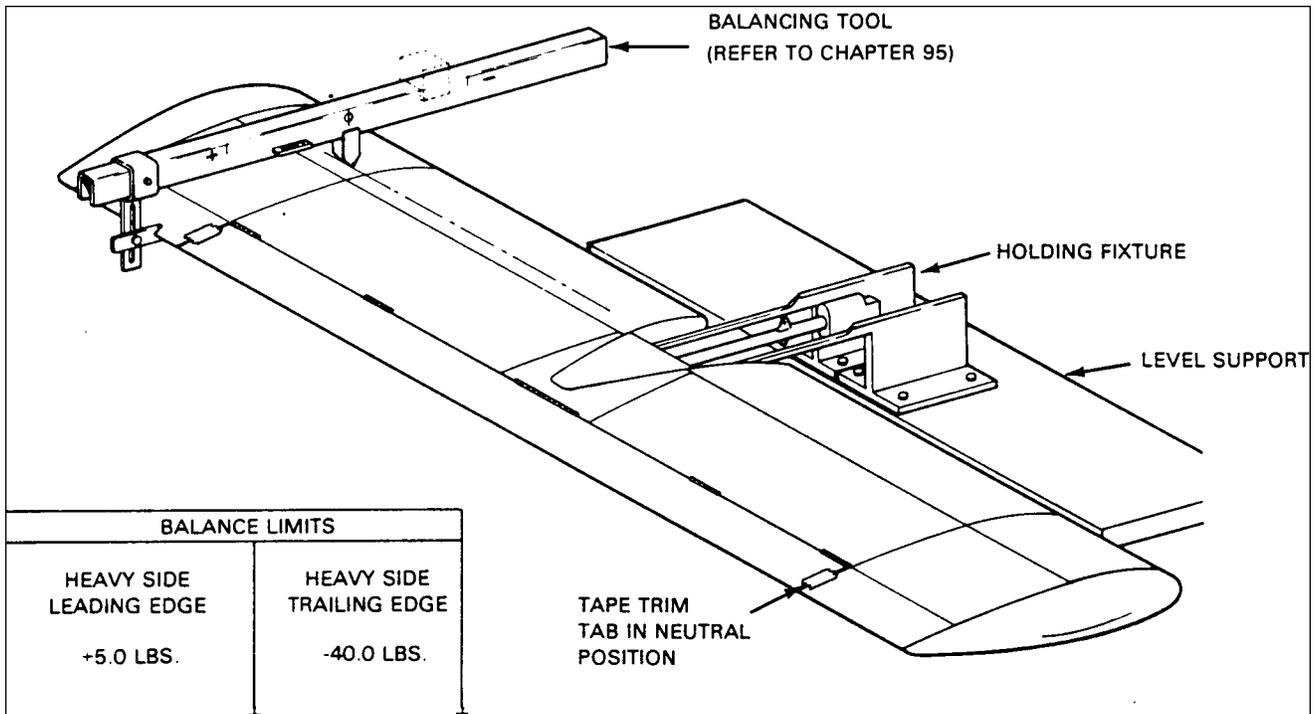

Figure 55-3. Stabilator Balance
5. Place tool on control surface perpendicular to hinge centerline (refer to figures 55-3 and 55-4).
### **BALANCING STABILATOR** (figure 55-3)
To balance the stabilator, the assembly must be complete including trim tab, tab push rod, end bearing, stabilator tips, and all attaching screws. Before balancing, tape trim tab in neutral position with a small piece of tape. Place complete assembly on knife edge supports in a draft free area in a manner that allows unrestricted movement. Place tool on stabilator with beam perpendicular to hinge centerline. Do not place tool on trim tab. Calibrate tool as described in Balancing Equipment. Read scale when bubble level has been centered by adjustment of movable weight and determine static balance limit. If static balance is not within limits given in figure 55-3, proceed as follows: